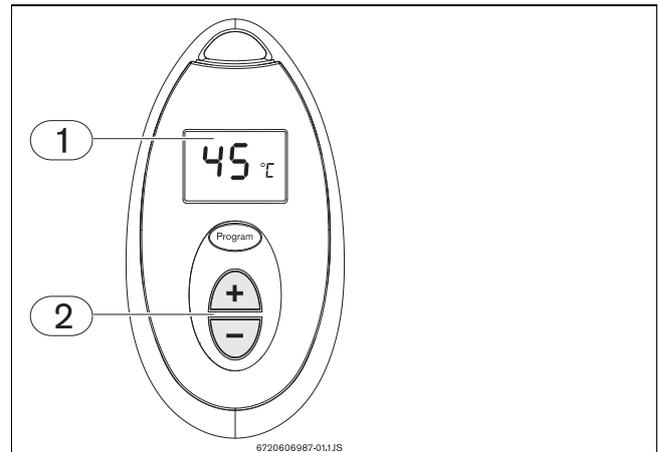

Fig. 14 Temperature adjustment
- ▶ Press the buttons  or  on the remote control (Fig. 14, pos. 2) until the required temperature appears on the remote control display (Fig. 14, pos. 1).